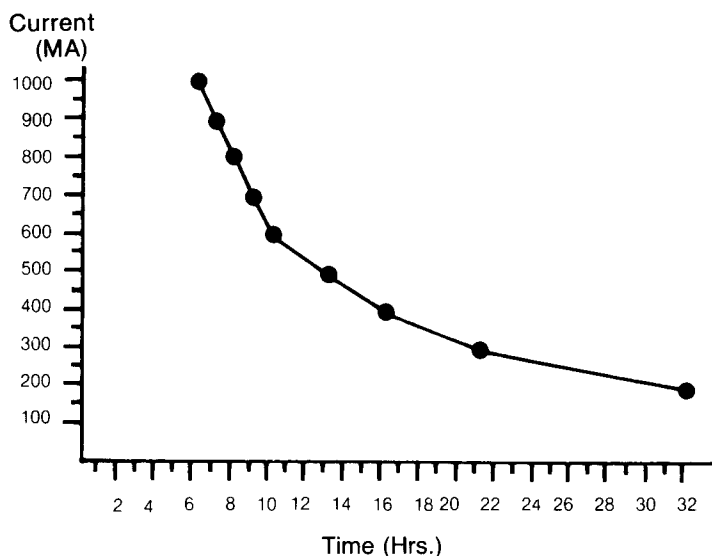

Figure 3
To determine the current load of a 2620 system, add all the current drains of all the remote modules as shown in Table 1. The standby time can then be calculated from Figure 3 which shows the expected hours of standby for various current loads using one (1) 4 amp hour 12 volt battery (Model 6812).